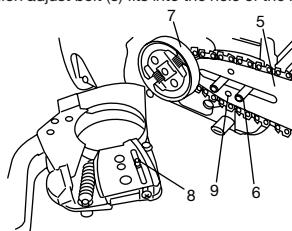

Fig. 3
3. Install, the chain bar (5) onto the bolts (6), then push it toward the sprocket (7) as far as it will go. Make sure that the boss of chain tension adjust bolt (8) fits into the hole of the bar (9). (Fig. 3)
Slightly move the bar back and forth and make sure the chain tension boss (8) fits into the hole (9) in the bar properly. (Fig. 3)